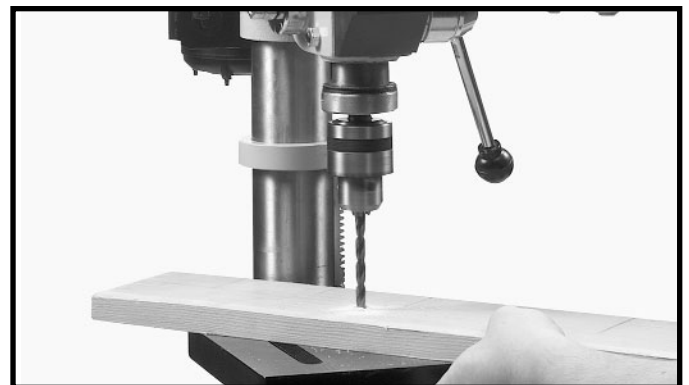

Fig. 34
**IMPORTANT:** When the workpiece is long enough it should always be positioned on the table with one end against the column, as shown in Fig. 34. This prevents the workpiece from rotating with the drill bit or cutting tool, causing damage to the workpiece or personal injury to the operator. If it is not possible to support the workpiece against the column, the workpiece should always be fastened to the table using clamps or a vise.